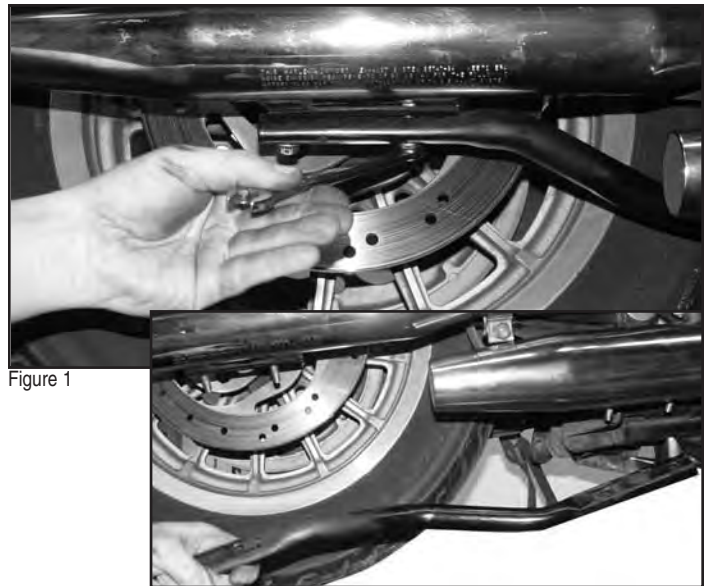

Figure 1
4. Remove exhaust hanger bracket. (**1/2" Box End Wrench**) **Figure 1.**